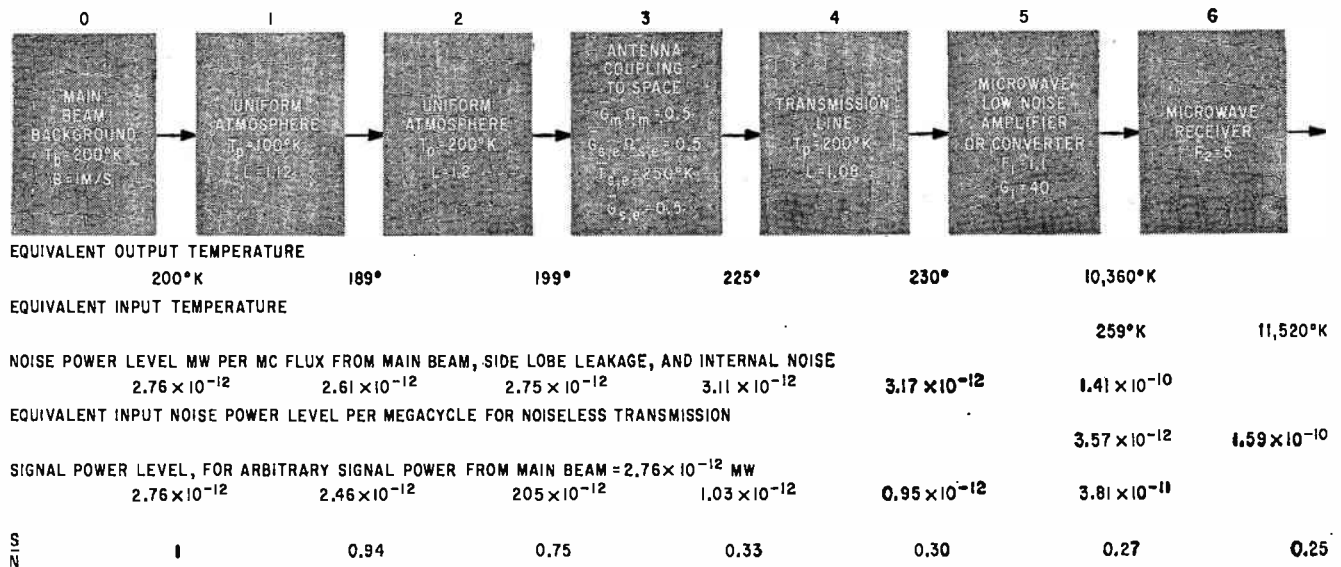

FIG. 3—Contributions to the overall noise that are made by each section of the receiver system
Consider first the equivalent temperatures and signals as seen at the outputs of the two uniform atmospheric regions, blocks 1 and 2 in Fig. 3. Using Eq. (4)